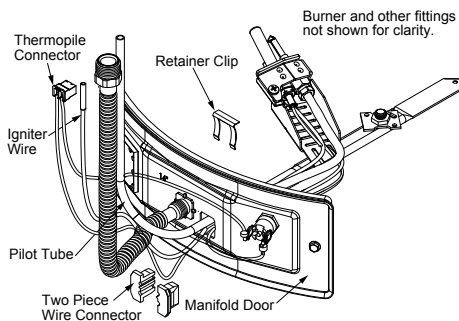

FIGURE 35.
2. Remove the retainer clip from the back of the two piece wire connector (using a flat blade screw driver), then remove the two piece wire connector from the manifold door (Figure 35).
3. Remove the burner by removing the two (2) screws located beneath it. Keep the screws for future use.
4. Remove the screw that secures the pilot shield and pilot assembly to the pilot bracket (Figure 35). Keep the screw for future use.
6. Pull the pilot tube from the pilot assembly (Figure 35). **IMPORTANT:** Be careful not to bend or alter the position of the pilot assembly components.
8. Push the new pilot assembly connectors through the hole in the manifold door where the two piece wire connector will be seated (See Figure 35). Reconnect the pilot tube and tighten the nut securing it to the pilot assembly. **IMPORTANT:** Keep the pilot orifice in the pilot when making the connection. Do not operate the water heater without the pilot orifice installed.